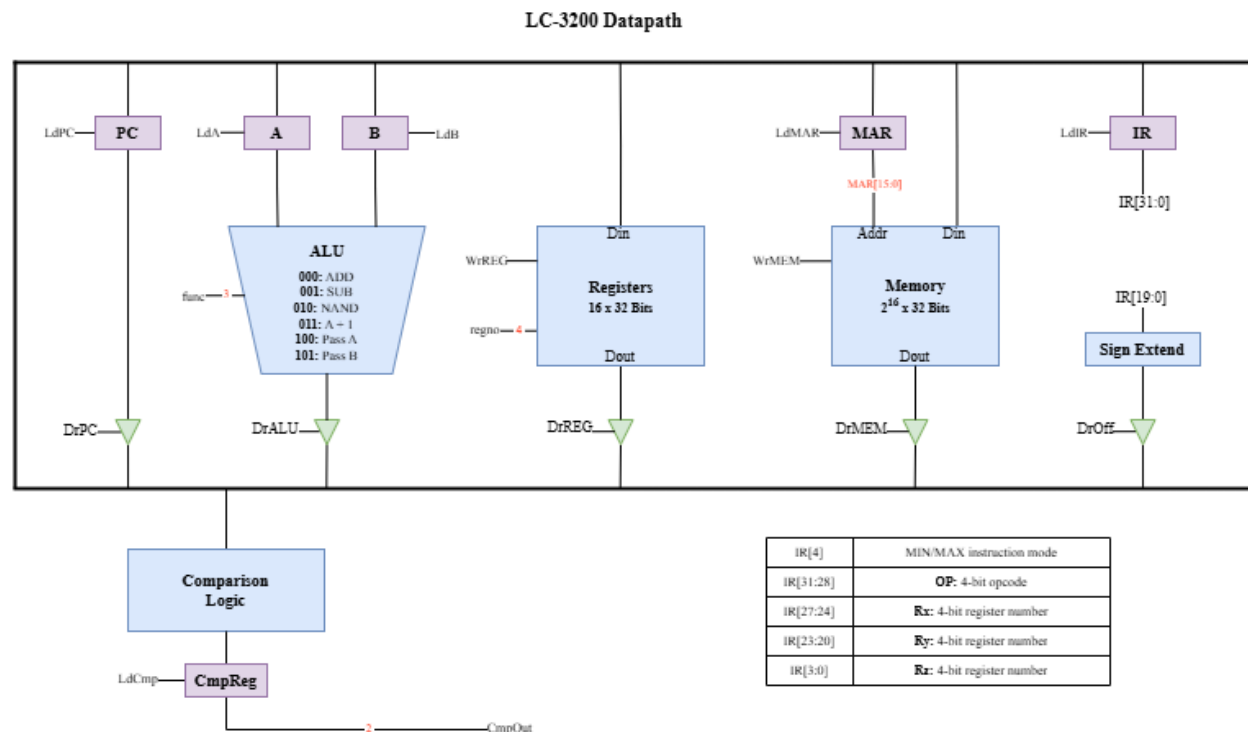

Figure 1: Datapath for the LC-3200 Processor
2. Using CircuitSim, implement the LC-3200 datapath. To do this, you will need to use the details of the LC-3200 datapath defined in Appendix A: LC-3200 Instruction Set Architecture. You should model your datapath on Figure 1.
The “comparison logic” box in Figure 1 is responsible for performing the comparison logic associated with the BEQ, BGT, TERN, and COLS instructions. The comparison logic should read the current value on the bus. When executing these instructions, you should compute $A - B$ using the ALU. While this result of the ALU is being driven on the bus, you should wire the value of $A - B$ into a comparator, and use the resulting outputs as necessary to handle all cases of the comparison logic across all instructions.
2. Implement the Microcontrol Unit using CircuitSim. The appendix contains all of the necessary information. Take note that the input and output signals on the schematics directly match the signals marked in the LC-3200 datapath schematic (see Figure 1).
3. Connect the completed control unit to the datapath you implemented in Phase 1. Using Figures 1 and 2, connect the control signals to their appropriate spots.